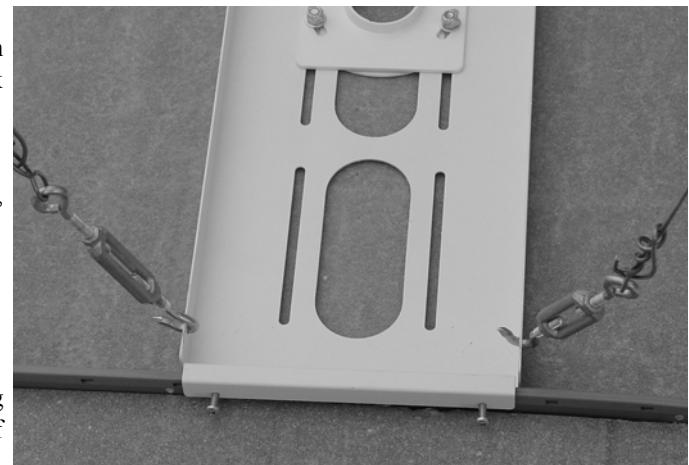

Figure 7. Anchoring
**WARNING: Make sure the tie wire will not become loose. Thread the end of the wire back through the first loop, closest to the eyebolt, and bend the end of the wire up to prevent the wire from untwisting (see Figure 7).**
2. Insert the wires through the ends of the turnbuckles. Twist each wire around itself at least four times, then thread the wire back through the loop closest to the eyebolt (see Figure 7).